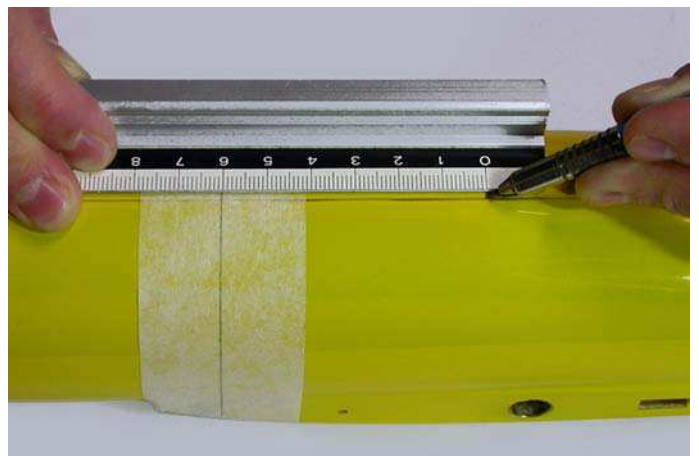

Fig.66: Mark a point 6 cm behind the leading edge.
- using a pencil, mark a point **6 cm** behind the wing leading edge (see figure 66);